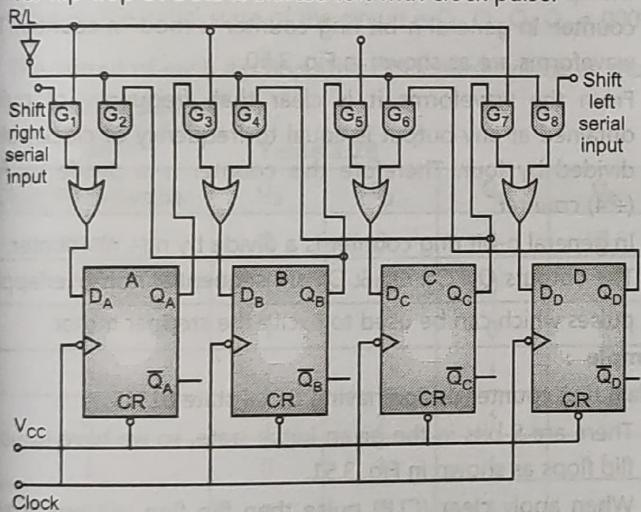

Fig. 3.46
- In bi-directional shift register, the data is shifted to left as well as to right direction. The direction is controlled by the control input R/L . The four-bit bi-directional shift register is shown in Fig. 3.46.